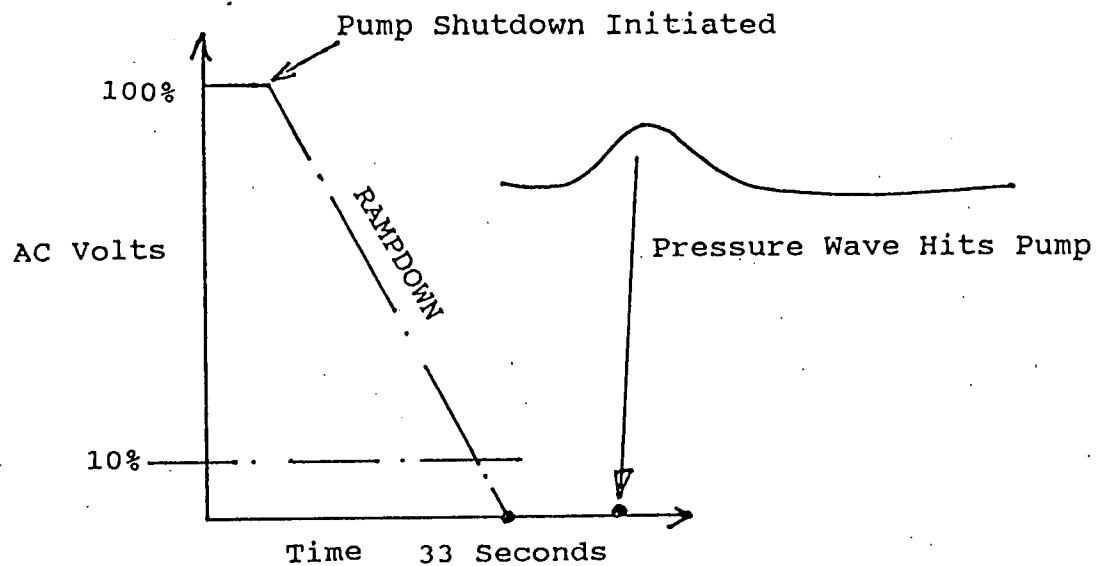

Figure 4
- .6 If the valve "bangs" closed, this indicates that the slope of the Ramp Down is too steep and the Ramp Down setting should be increased until the valve closes quietly. See Figure 4 below.